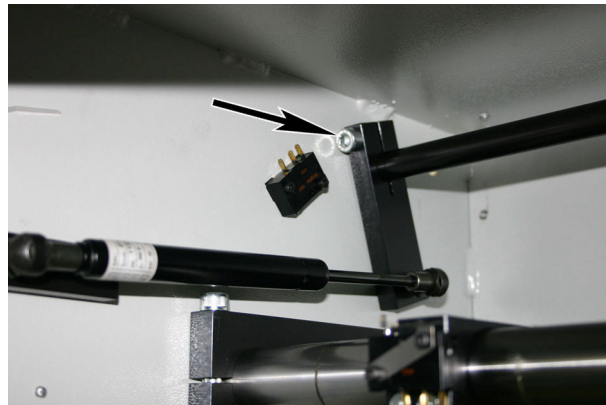

Fig. 1
- ⇒ Gas pressure spring is extended (Fig. 1).
2. The Allen head screw on the fastening (gas pressure spring) must be tightened securely (Fig. 1, arrow).